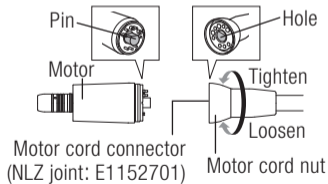

Figure 1.
- Align and insert firmly the motor pin into the pin holes of the motor cord connector, and fasten the motor cord nut securely. (Figure 1.)